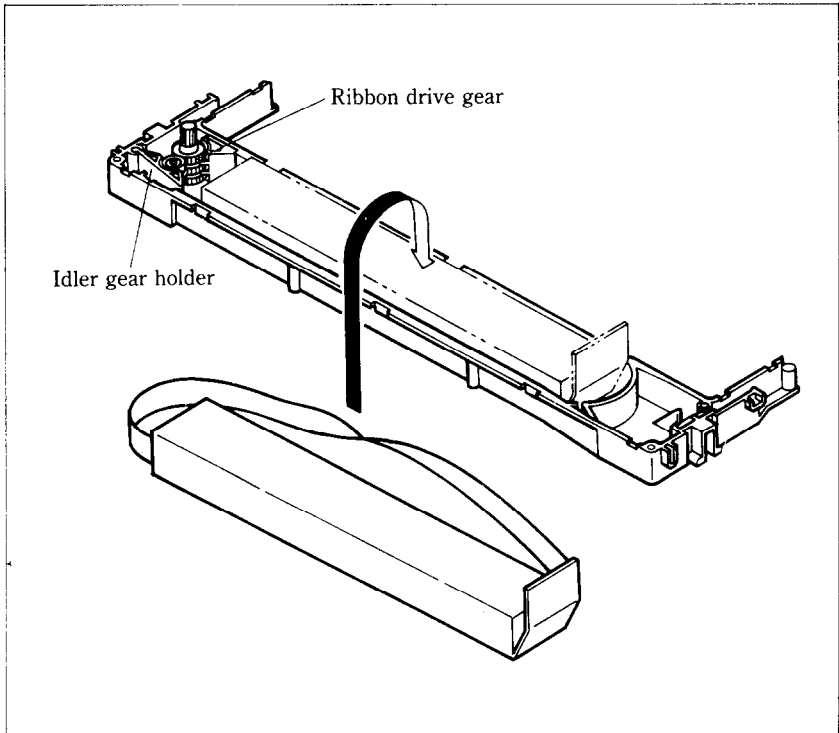

Figure 8-2. Replace the ribbon sub-cassette.
5. Press hard against the end of the idler gear holder to make a space between the holder and the ribbon drive gear, and remove the old ribbon and holder. See Figure 8-2.
7. Take the new ribbon and holder out of the wrapper, remove the adhesive tape on the joint, and place the ribbon holder into the cassette as shown in Figure 8-2.